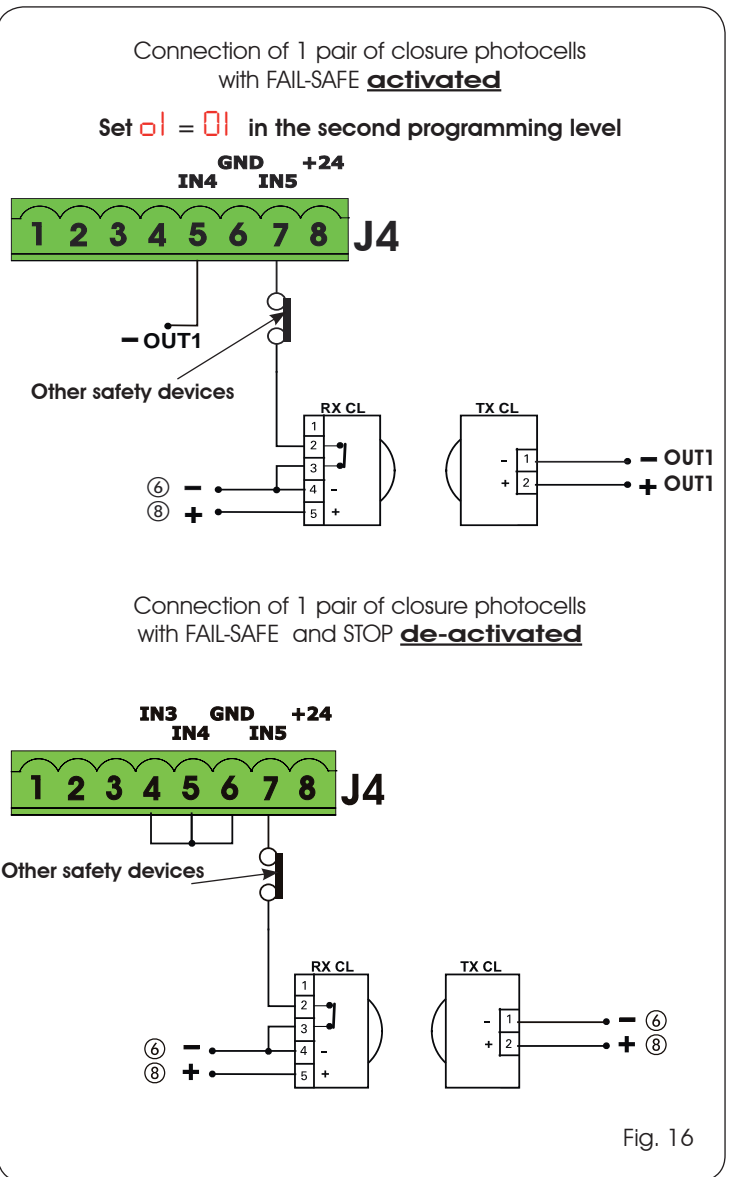

Fig. 16
- If you use the FAIL-SAFE device, connect the transmitters power feed to OUT1 after you have set it appropriately (see 2nd level programming and fig. 16).
- If you use the FAIL-SAFE device, the non-used safety inputs too must be jumper connected to the OUT1 negative (see Fig.16).